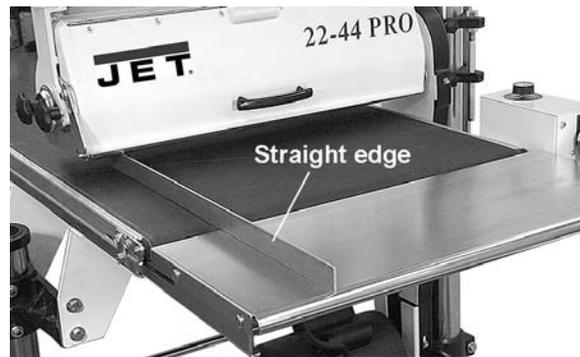

Figure 8
7. The *table* (U) should be positioned even with or slightly below the *conveyor belt* surface. To check position, place a *straightedge* near the left side of the *conveyor* and extending out over the *table*, as shown in Figure 8. Raise the *conveyor table* until the drum holds the *straightedge* in place, and adjust the infeed table until it is even with or slightly below the conveyor belt surface.